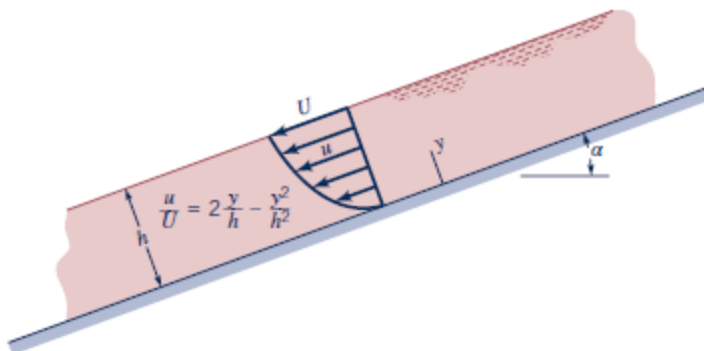

Figure P1.23
1.23 A thin layer of glycerin flows down an inclined, wide plate with the velocity distribution shown in Fig. P1.23. For $h = 0.3$ in. and, $\alpha = 20^\circ$ determine the surface velocity, U . Note that for equilibrium, the component of weight acting parallel to the plate surface must be balanced by the shearing force developed along the plate surface. In your analysis assume a unit plate width.